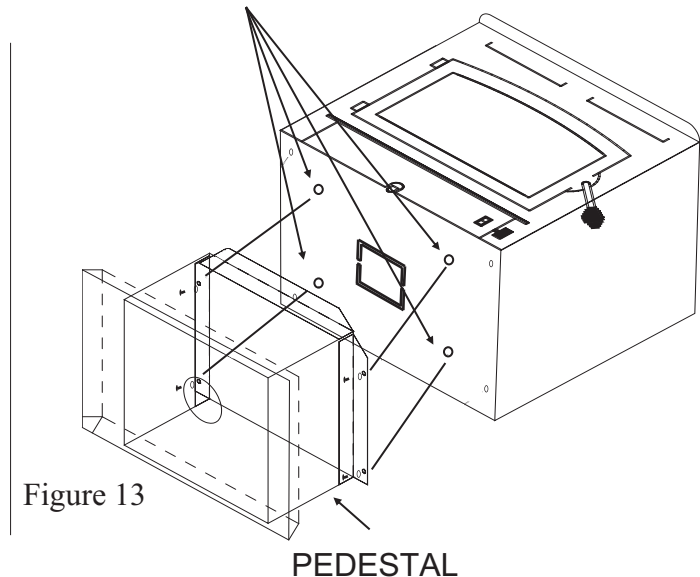

Figure 13
6. **(Pedestal Kit):** If pedestal kit is being used and out side air is required for residential free standing installation (see page 25 Out Side Air Installation). Open freestanding kit and obtain stand. Place stand against bottom of heater (angle side to heater). Center stand front to back and also center stand left and right. Mark screw locations on bottom of stove through outer holes of stand mounting angles. Set stand aside and drill four 7/32" holes in heater bottom. Then mount stand to bottom of heater with screws provided. (See Figure 13).
7. Obtain four (4) 3/16" self-tapping screws and secure stand to heater.